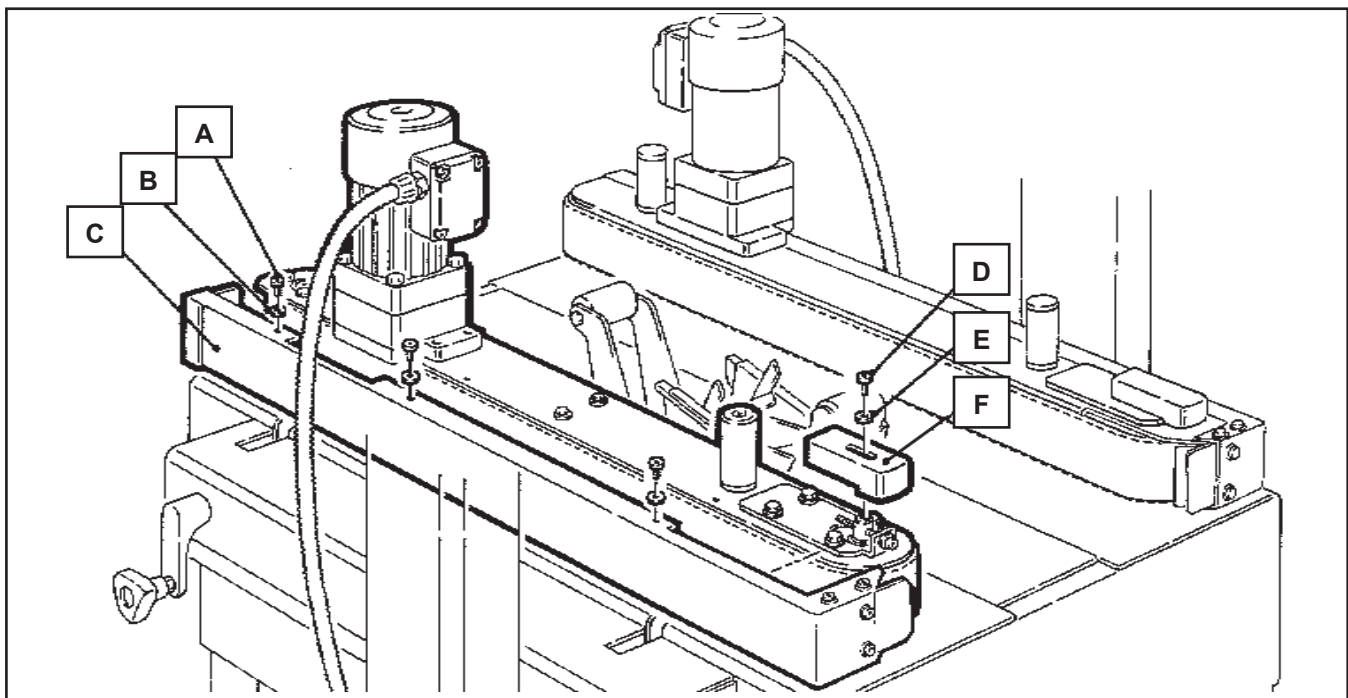
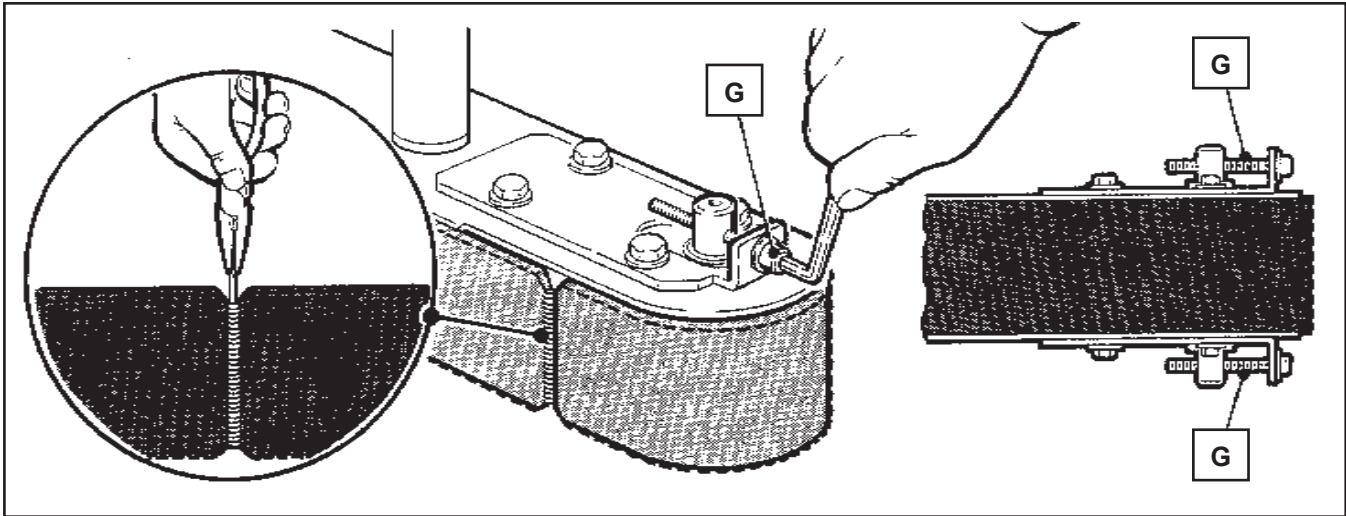

Figure 13-4 – Box Drive Belt (Left Side View – Infeed End)
Figure 13-5 – Box Drive Assembly, Infeed End
2. Remove and retain the three (3) screws (A), three (3) washers (B) and side cover (C). **See Figure 13-4.**
3. Remove and retain the screw (D), washer (E) and belt tensioner cover (F).
4. Turn belt adjustment screws (G) counterclockwise on both the upper and lower tension assemblies until belt is loose. **See Figure 13-5.**
7. To set drive belt tension, turn adjustment screws (G) equally on both the upper and lower tension assemblies. Turn the screws clockwise to increase tension or counterclockwise to decrease tension. **See Figure 13-5.**
8. Reverse procedures in Steps 1-3 (**Figure 13-4**) to reassemble the drive belt assembly.